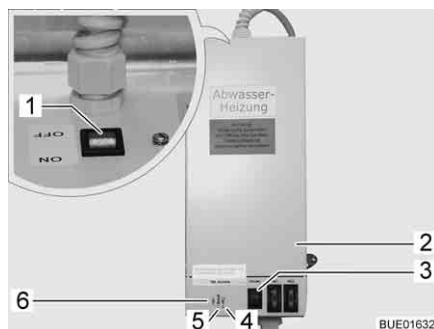

Fig. 217 Transformer with control unit
The 230 V AC/12 V DC transformer (Fig. 217,2) is installed in the wardrobe or in the storage area beneath the seating group, depending on the model.
- Indicator lamp (Fig. 217,5) lights up in green: Regulator in operation.
- Indicator lamps (Fig. 217,4 and 6) light up in red: Waste water pipes are warmed.
A test button (Fig. 217,3) is integrated in the housing with which the control unit can be operated for a short time. By pressing the test button, the function of the warming unit can be tested, even if the ambient temperature is above 5 °C.
- Turn switch (Fig. 217,1) on the transformer (Fig. 217,2) to "ON".
- Turn switch (Fig. 217,1) on the transformer (Fig. 217,2) to "OFF".